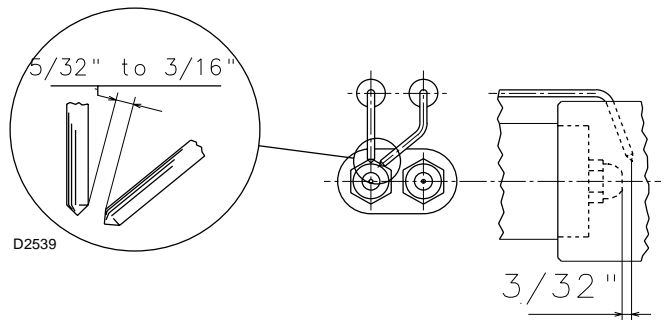

Fig. 11
Make sure that the electrode is positioned as shown in Fig. 11.
- Make sure that the electrodes are positioned as shown in Fig. 11.